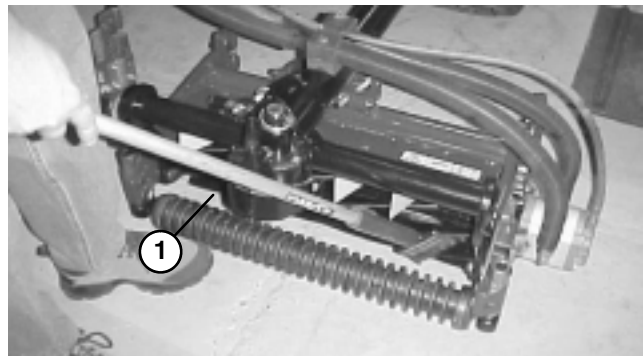

Figure 69
8. Apply lapping compound with a long handle brush (Toro Part No. 29-9100). Never use a short handled brush (Fig. 69).